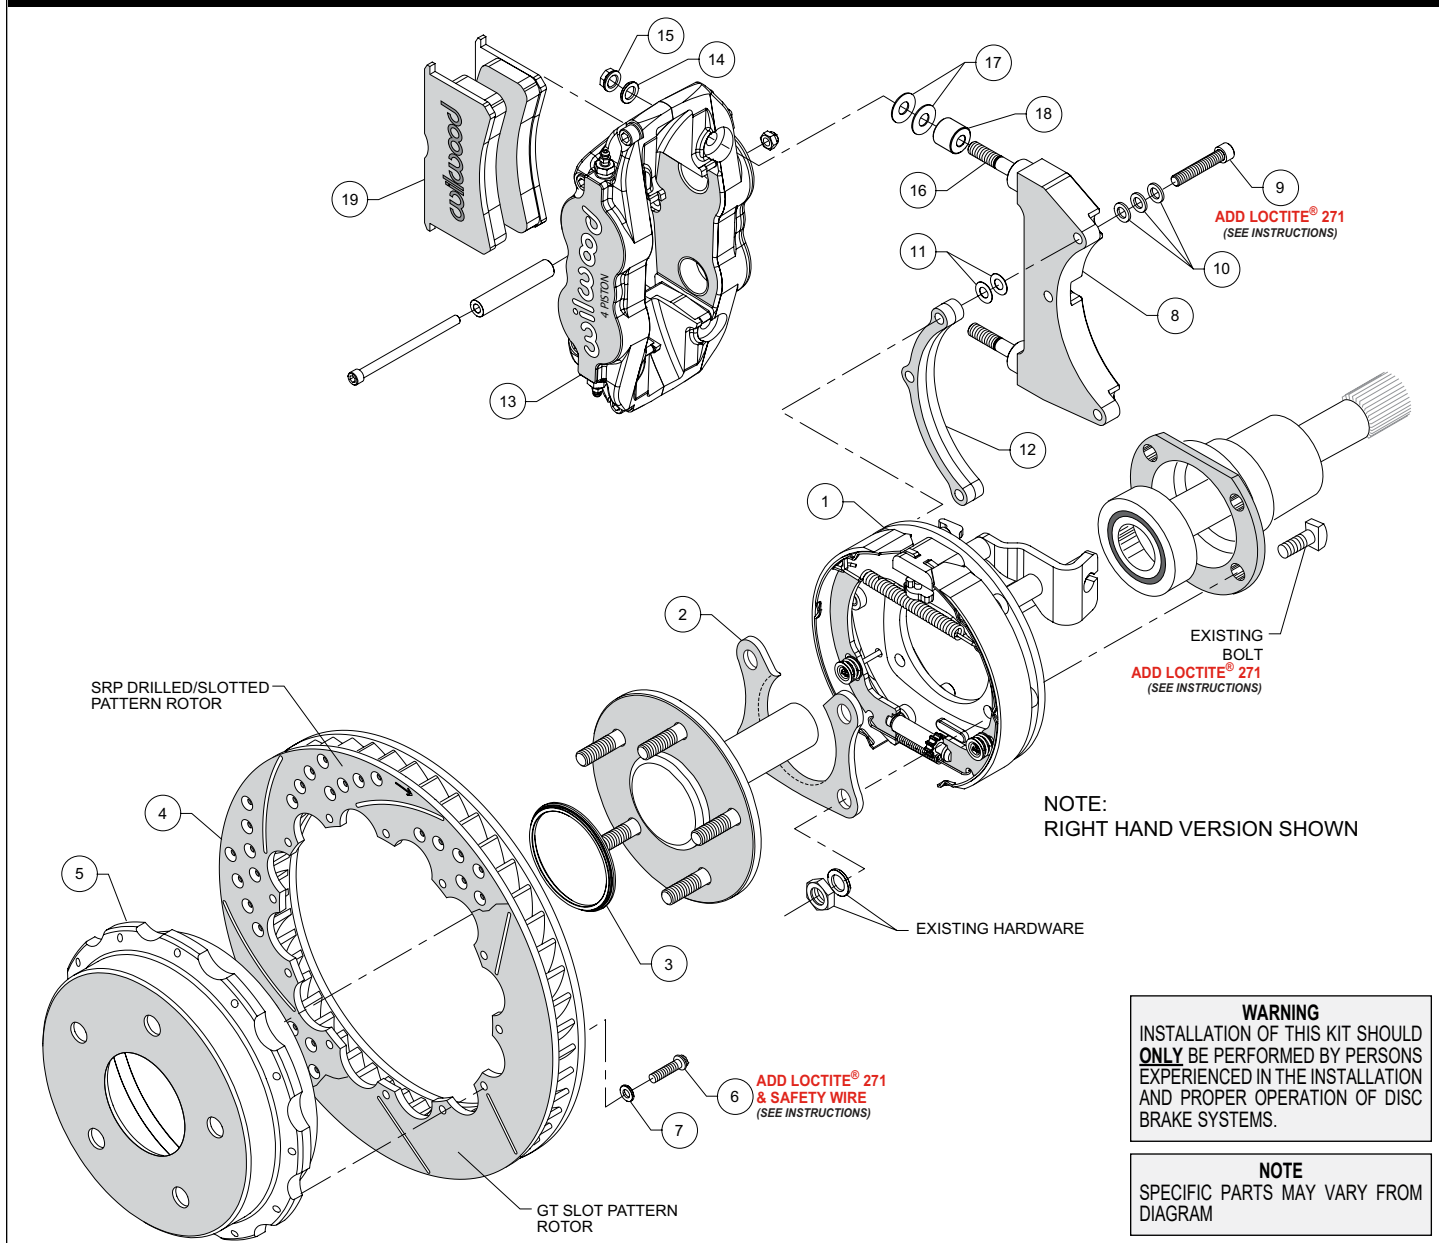
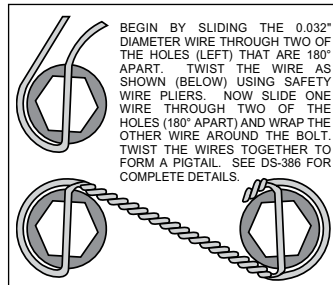

Figure 1. Typical Installation Configuration
Figure 5. Safety Wire Diagram
**Assembly Instructions** (numbers in parenthesis refer to the parts list, and Figure 1 on the preceding pages): **CAUTION:** All mounting bolts must fully engage clinch nuts. Be sure to check that all bolts are either flush or protruding through flanged side of clinch nut after shimming.
- Orient the bracket assembly (1) as shown in Figure 1 and Photo 1 and slide it onto the axle. Insert the axle and bracket into the axle housing. Ensure that the bracket assembly backing plate fits flush against the axle housing flange.
- Install the bearing retainer (2) with the opening pointing upward and the lip facing inward (toward the bearing), as shown in Figures 1 and 4, and Photo 2. Secure retainer and bracket assembly to the axle housing flange using the Original Equipment Manufacturer (OEM) bolts, washers, and nuts, Figure 1. Apply red *Loctite*® 271 to the OEM bolt threads and torque to OEM specifications.
•**NOTE:** Please reference the caution statement at the beginning of the assembly instructions. The caliper mounting bracket (8) should initially be installed with clean, dry threads on the mounting bolts. Orient the bracket as shown in Figure 1 and Photo 3, and install using bolts (9) and three flat washers (10). Initially place two .015" shim washers (11) on each bolt between the bracket (8) and spacer (12), Figure 1. Temporarily tighten the mounting bolts. **NOTE:** End of bolt should not exceed inside face of insert. The bracket must tighten squarely against the back side of the bracket kit assembly (1). Later, after the caliper alignment has been checked, the mount bolts will be secured using red *Loctite*®.
•Orient the rotor (4) and the hat (5) as shown in Figure 1 and Photo 4. Attach rotor to hat using bolts (6) and washers (7). Apply red *Loctite*® 271 to the bolt threads and torque to 140 **in-lb** using a criss-cross pattern. For an added measure of security, the bolts may be safety wired using standard 0.032 inch diameter stainless steel safety wire as shown in Figure 5. Please refer to Wilwood's data sheet DS-386 (available at [www.wilwood.com/Pdf/DataSheets/ds386.pdf](http://www.wilwood.com/Pdf/DataSheets/ds386.pdf)) for complete safety wire installation instructions.
•Slide the rotor registration adapter (3) onto the axle register on the axle flange with the smaller O.D. facing toward the rotor/hat (4/5), Photo 5. Align the hole pattern in the hat with the stud pattern on the axle flange and slide into place, Figure 1 and Photo 6. **NOTE:** The rotor/hat must fit flush against the axle flange or excessive rotor run out may result. Install three lug nuts (finger tight) to keep the rotor/hat assembly in place while continuing with the installation. **NOTE:** Some OEM and after market axles come with stud sizes larger than 0.50" diameter. Verify stud size and have a qualified machine shop drill the bolt circle of the hat/rotor to the correct stud size, if necessary.
•Initially place two .035" thick shims (17) and spacer (18) on each stud as shown in Figure 1 and Photo 7. Mount the caliper (13) onto the bracket (8) using lock nuts (15) and washers (14), Figure 1. Temporarily tighten the lock nuts and view the rotor through the top opening of the caliper. The rotor should be centered in the caliper, Photo 8. If not, adjust by adding or subtracting shims (11) between the bracket (8) and the spacer (12). Always use the same amount of shims on each of the three mounting bolts. Once the caliper alignment is correct, remove the bracket mounting bolts (9) one at a time, apply red *Loctite*® 271 to the threads, and torque to 180 **in-lb**.